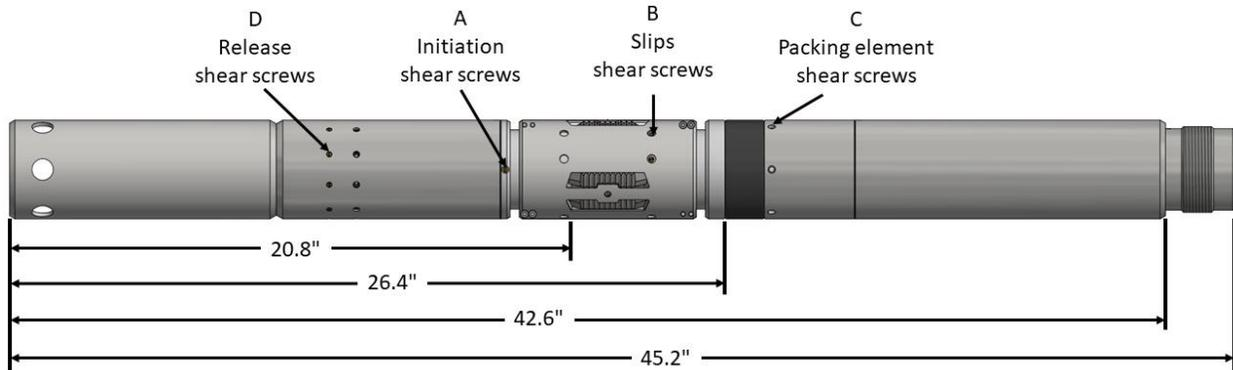

Figure 2: LBA External Dimensions
- 1) Attached the LBA to setting tools like the E-4 Wireline Pressure Setting Assembly (WLPSA) using an adapter kit as shown in Figure 2.